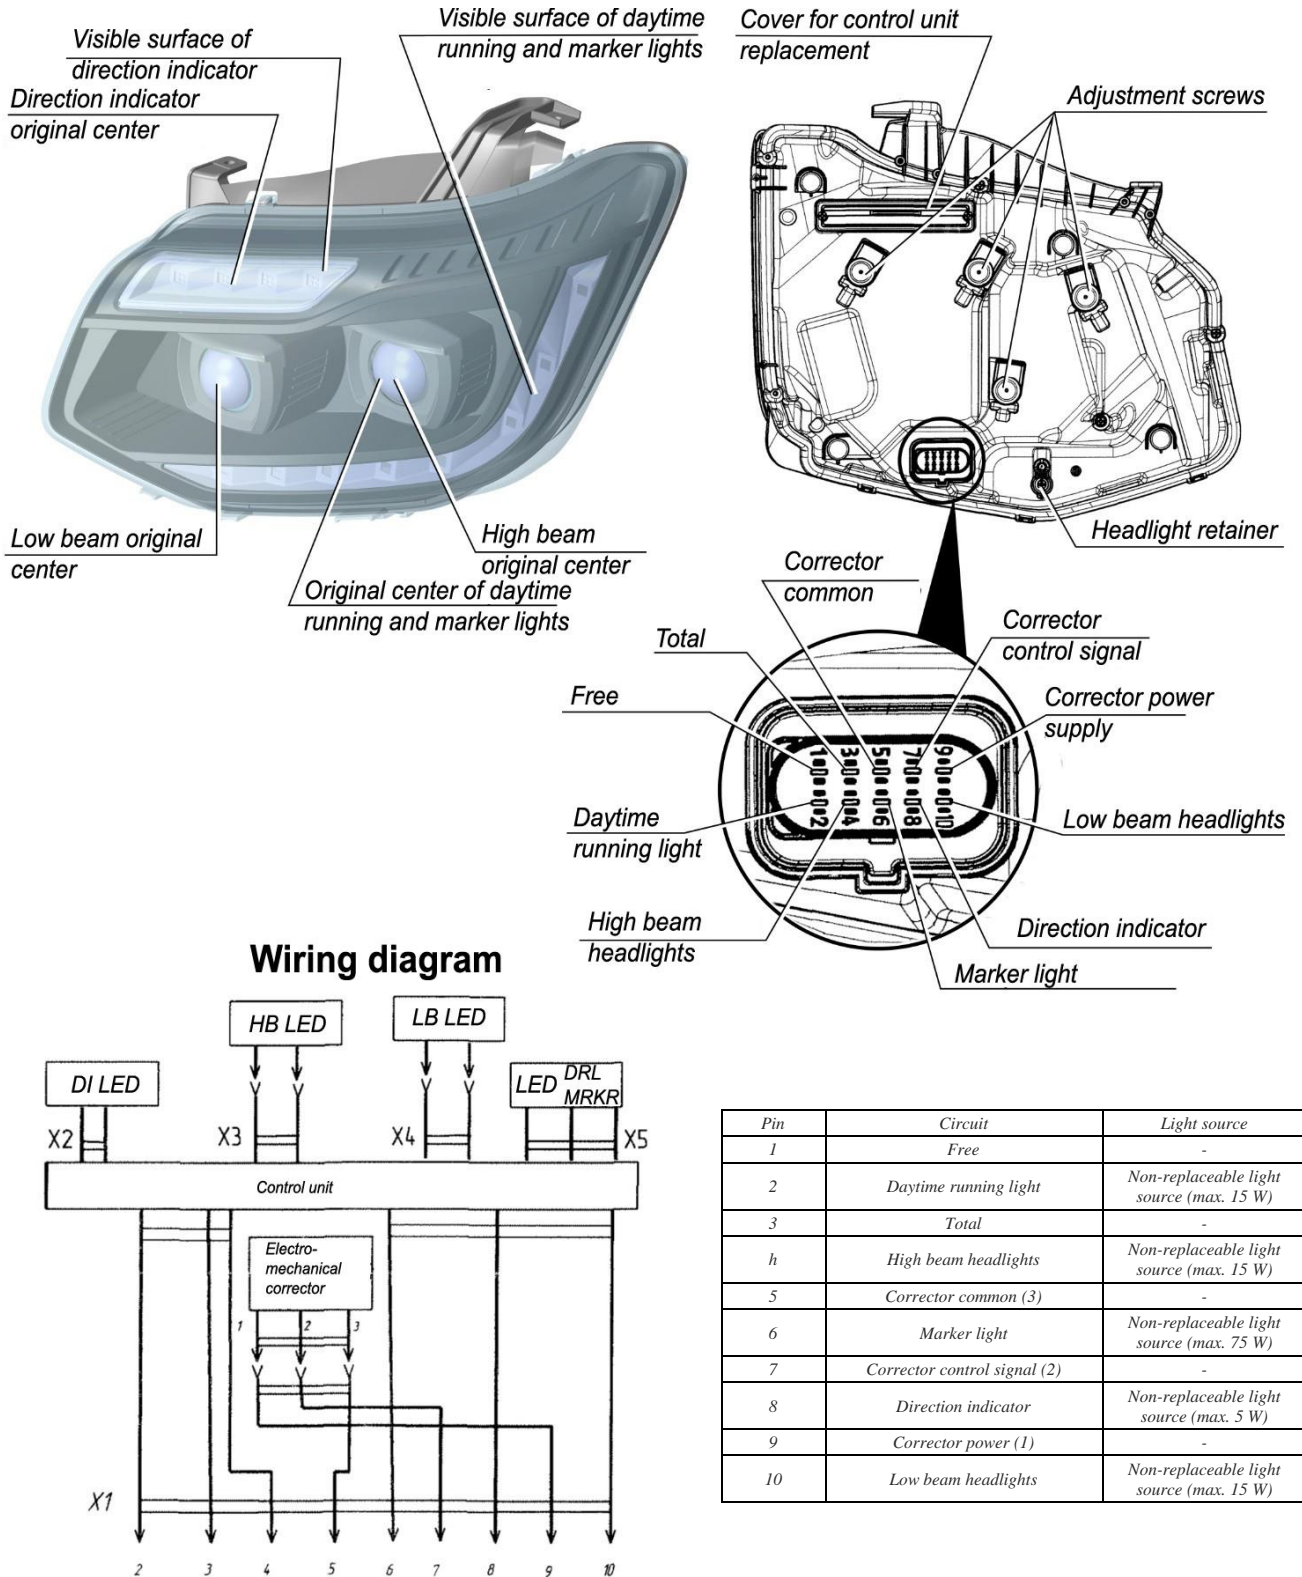

Fig. 7.3. Headlight
The vehicle has LED headlamp clusters. In the headlight (Fig. 7.3), the following illumination areas are distinguished:
- adjust the light beams by turning the adjusting screws (see Fig. 7.3) of the manual adjustment assemblies in turn for each headlight.